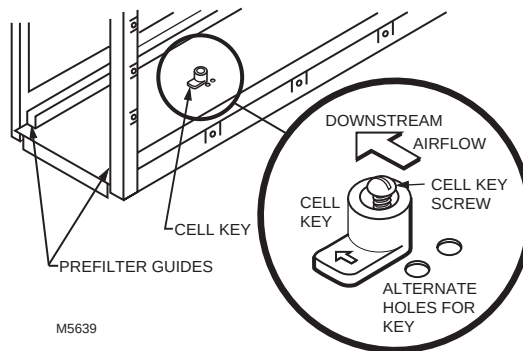

Fig. 7. Position of cell key determines orientation of cell (arrow on key must point downstream).
2. Remove the screw holding the cell key in place. See Fig. 7.